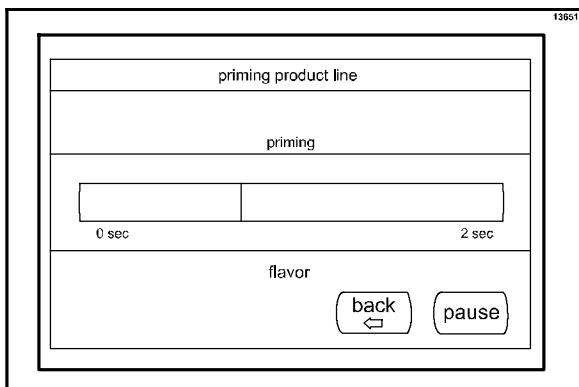

Figure 166
19. The product bag will begin priming. A bar graph screen will show the progress of the priming. (See Figure 166.)